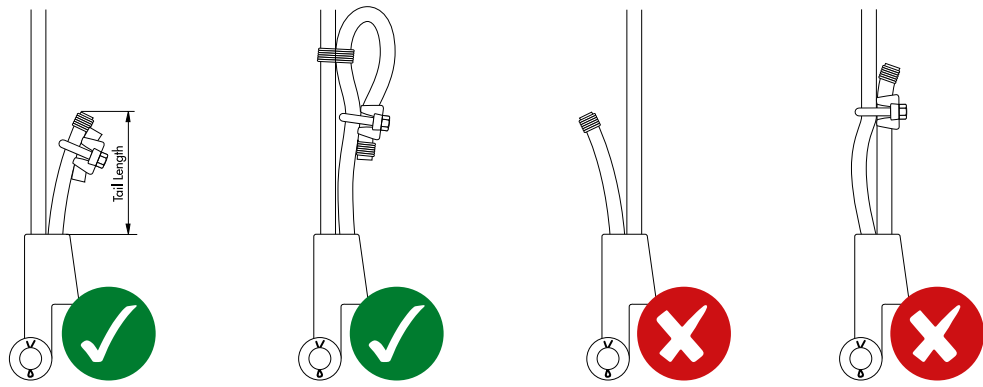

Figure 3
- never weld the tail; the tail should have a length of at least 6 times the wire rope diameter with a minimum of 150 mm. Secure the dead end of the rope with a wire rope clip as shown in figure 3;